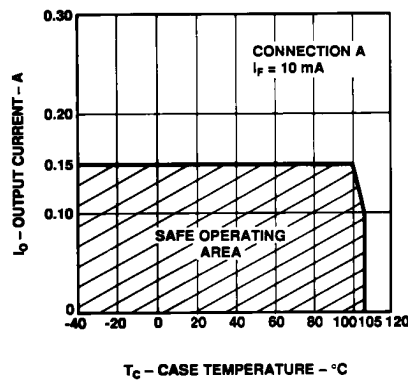
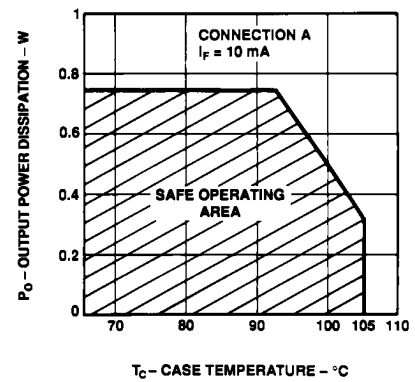

Figure 3B. Maximum Average Output Current Rating vs. Case Temperature.
Figure 4. Output Power Derating vs. Case Temperature.
2. For derating, see Figure 4. The output power P_O derating curve is obtained when the part is handling the maximum average output current I_O as shown in Figure 3.
Derating curves are shown in Figures 3 and 4. Figure 3 specifies the maximum average output current allowable for a given ambient or case temperature. Figure 4 specifies the output power dissipation allowable for a given case temperature. Above a case temperature of 93°C , the maximum allowable output current and power dissipation are
related by the expression $R_{SS} = P_O(\text{max})/(I_O(\text{max}))^2$ from which R_{SS} can be calculated. Staying within the safe area assures that the steady state junction temperatures remain less than 125°C . As an example, for a case temperature of 100°C , Figure 4 shows that the output power dissipation should be limited to less than 0.5 watts. A check with Figure 3B shows that the output current should be limited to less than 150 mA. This yields an R_{SS} of 22Ω .